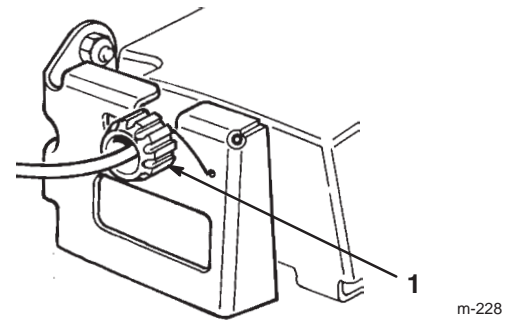

Figure 33
2. Rotate the control knob clockwise 1/2 turn if the lawn mower does not self-propel. If the lawn mower creeps forward, rotate the knob 1/2 turn counterclockwise to loosen the belt (Fig. 33).